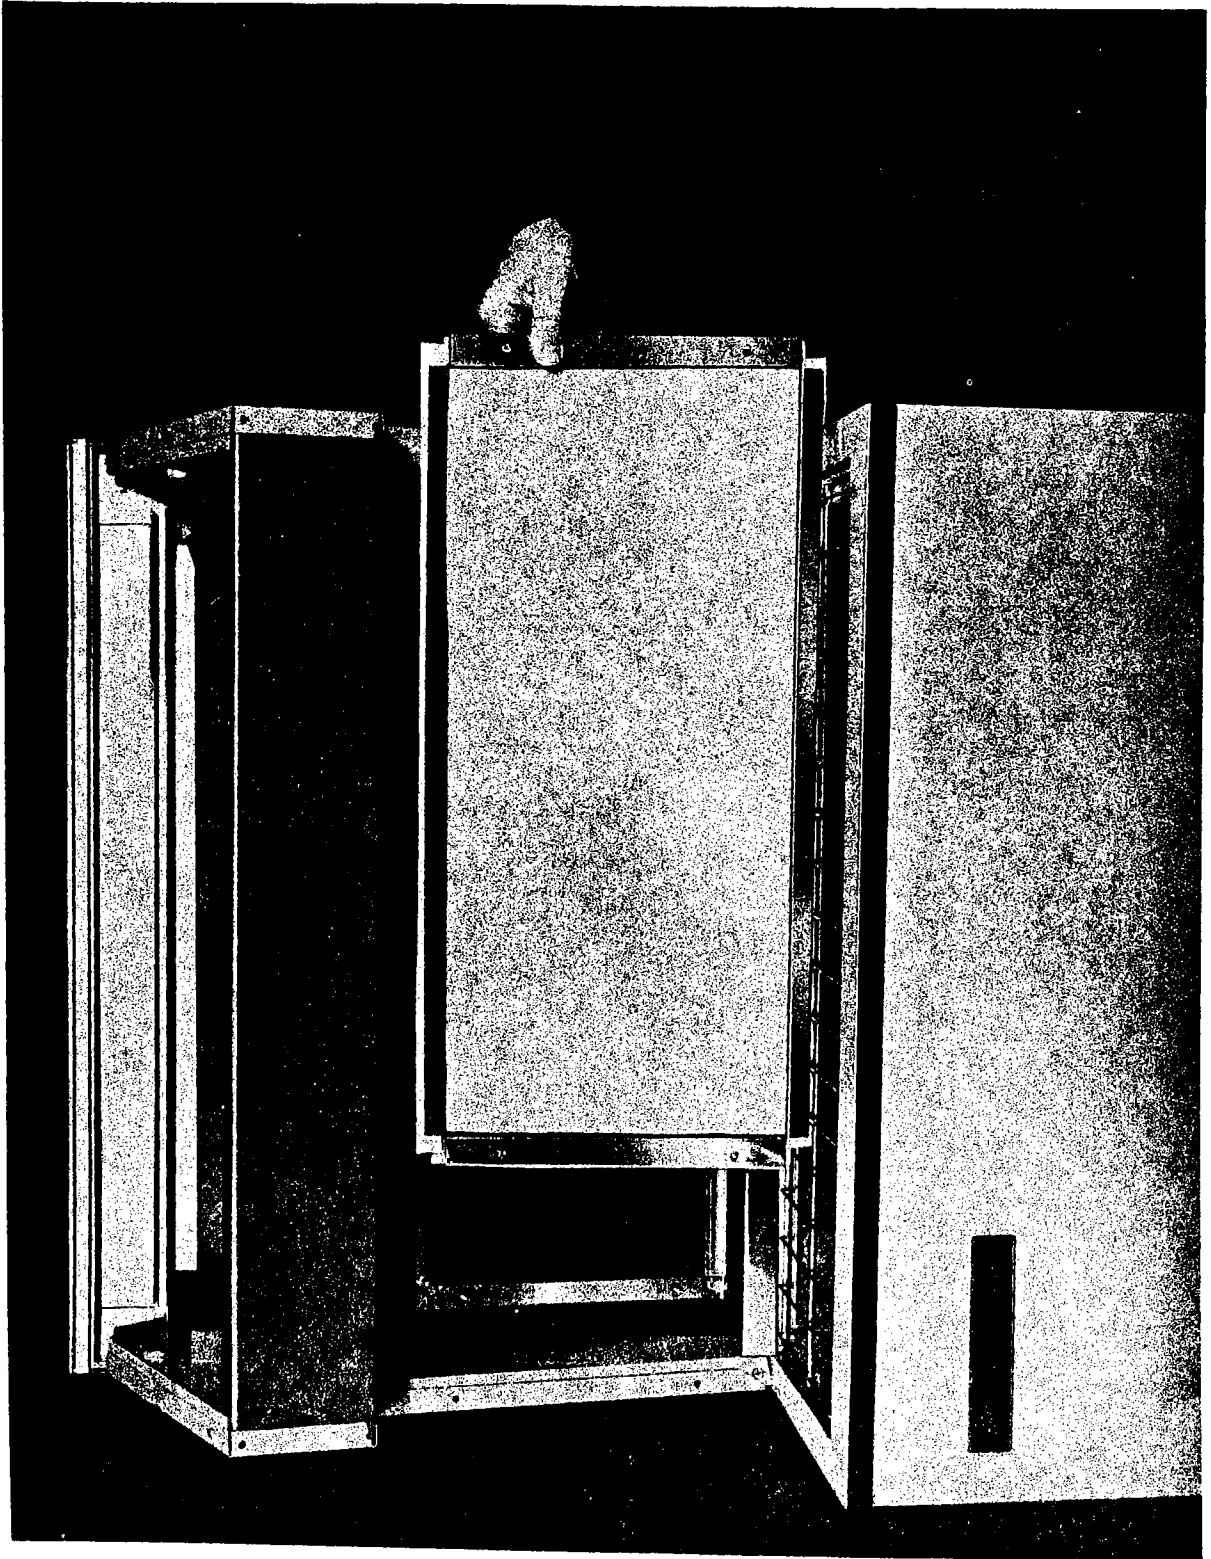

FIG. 15
3. Remove the four wing nuts holding the inside panel, and pull this panel straight out as indicated in Fig. 15.